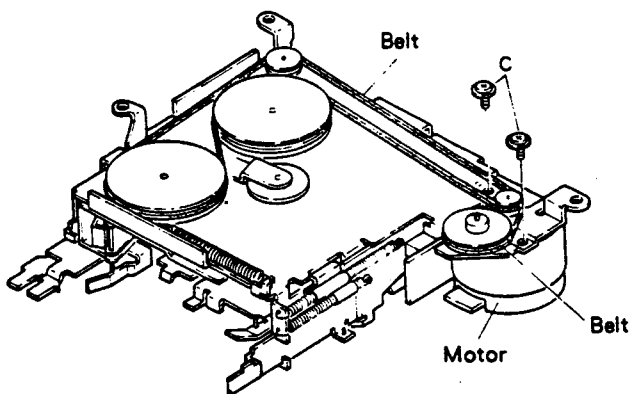

Fig. 3
3. The belt can now be removed. (Fig.3)
4. Remove two screws C. The motor can be removed. (Fig.3)